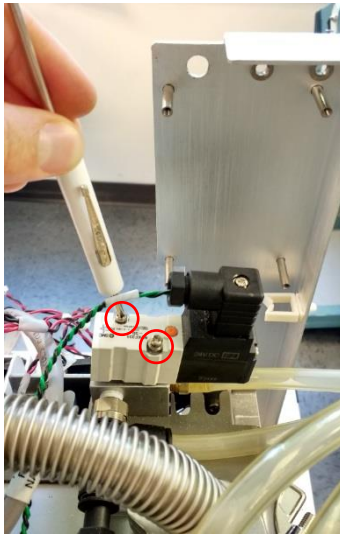

Figure 2: Removing Valve
- 5) If the leak detector configuration has a valve in front of the bottom left post, move that valve aside by unscrewing the two screws circled (Figure 2: Removing valve). Keeping the wiring connected, set valve aside. This valve is only used on certain models of leak detectors. If the valve is not present, ignore this step.